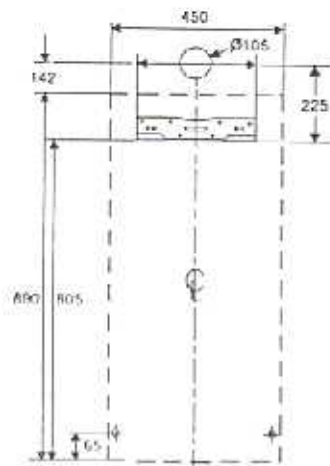

Fig. 13
## 5.4 Mounting the Appliance (Fig. 13)
Alternatively, position bracket and holes to dimensions in fig 13.
Refer to fig.13 and figs 14-18 for relevant dimensions for locating the hole. Where it is remote from the boiler take special care to ensure hole is at the correct level so that the finished flue is horizontal.
5.5.19 When the flue and appliance are finally positioned screw the lower frame to the wall. (fig. 13)